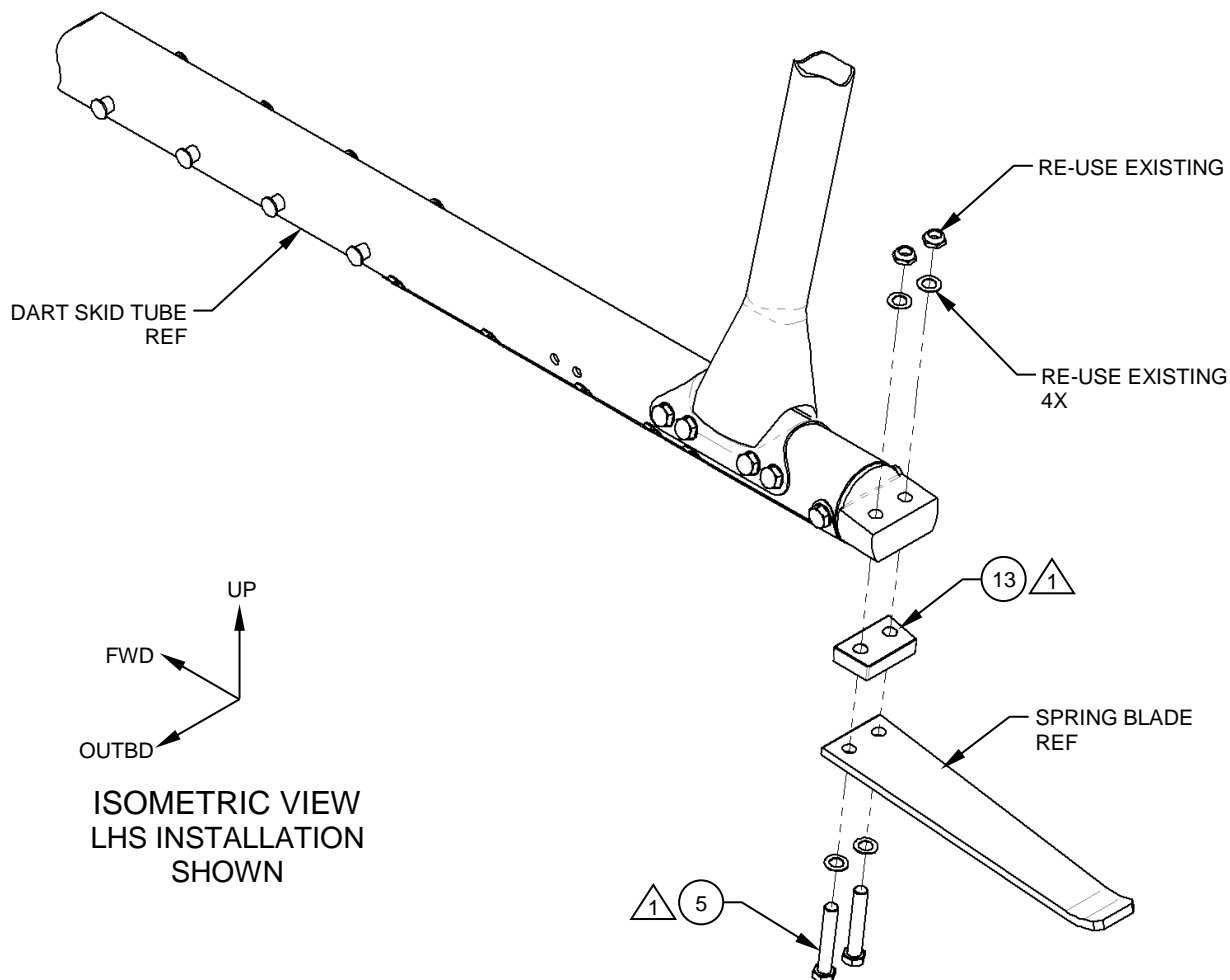

Figure 8
2. Raise the aircraft and remove the spring blade and associated fasteners. Install the Spacer, Detail (Item 13) between the spring blade and its associated fitting using the provided Bolts (Item 5). Re-use the existing washers and nuts. Reference Figure 8.